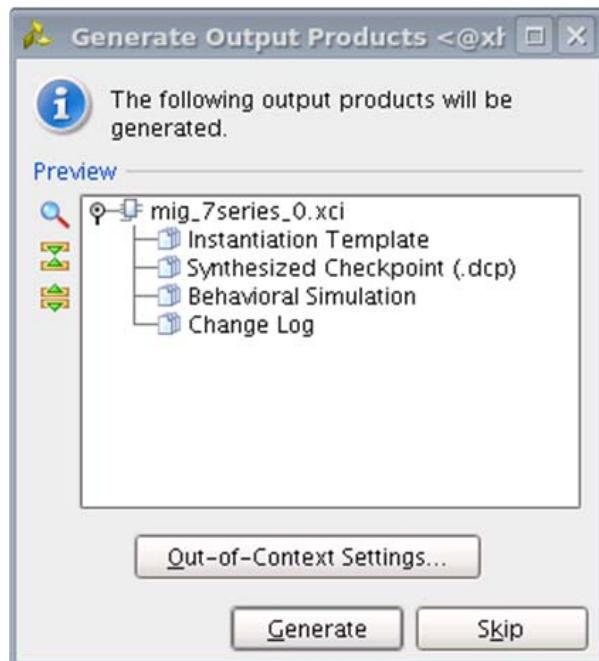

Figure 4-27: Generate Output Products Window
1. After clicking **Generate**, the **Generate Output Products** window appears. This window has the **Out-of-Context Settings** as shown in Figure 4-27.